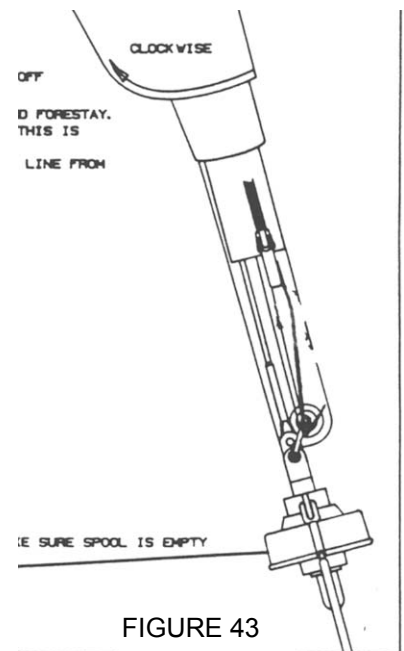

FIGURE 43
22.7 Attach the jib sheet as shown. (FIGURE 43)
- E. to unfurl the jib, release the furler line from the cleat on the front crossbar and pull in on the jib sheet. (FIGURE 43)